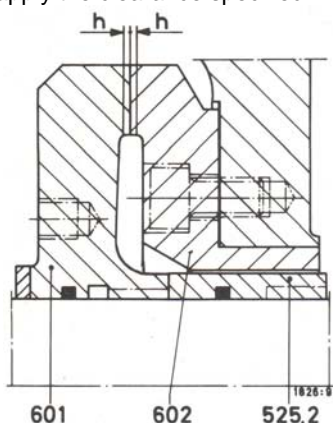

Figure 33 – Remachining the balance device
If the balance disc (601) touches the balance counter disc (602) remachine the faces on a lathe with arbours, this ensures the contact faces are then sufficiently true in relation to the bores. (Max. remachining 2 h = 2 mm, see fig. 33). Individual grooves can be allowed to remain.